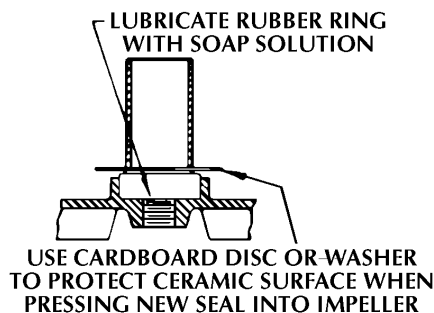

Figure 7
3. Lubricate O-Ring on seal seat with liquid soap solution. Press seat into impeller cavity with polished face up as shown in Figure 7. Use cardboard disc or large washer to protect surface of ceramic seat of new seal. BE SURE you do not scratch or nick seal surface.